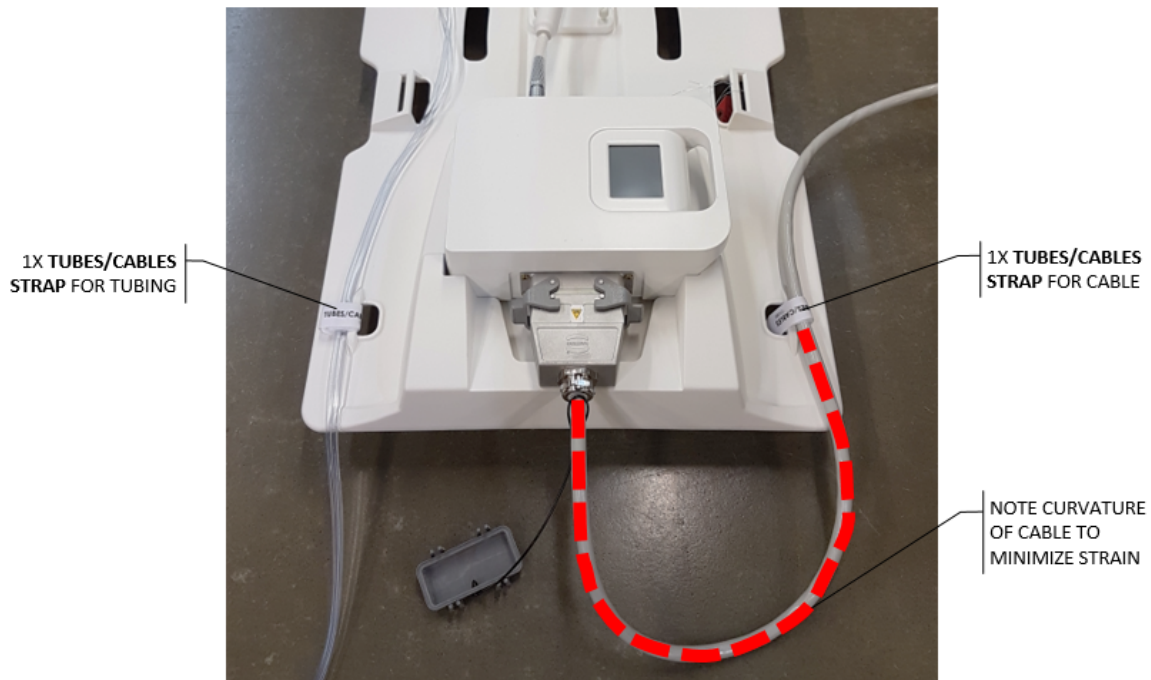

Figure 30: Tube-and-cable straps of base plate: one for tube sets and one for RF cable
4. MRI Technologist: Use tube-and-cable straps to manage fluid tubes and the white RF cable as shown in *Figure 30*. Leave some slack to allow the cables to slide freely and to reduce tripping hazards. Ensure no cables, tubing, or other materials can be caught while the MRI table is moving.